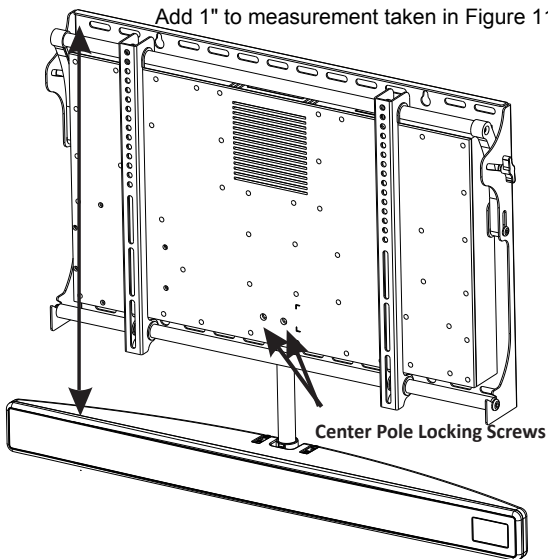

Figure 12 - Adjust Center Pole
- Tighten the two center pole locking screws, as shown in Figure 12.